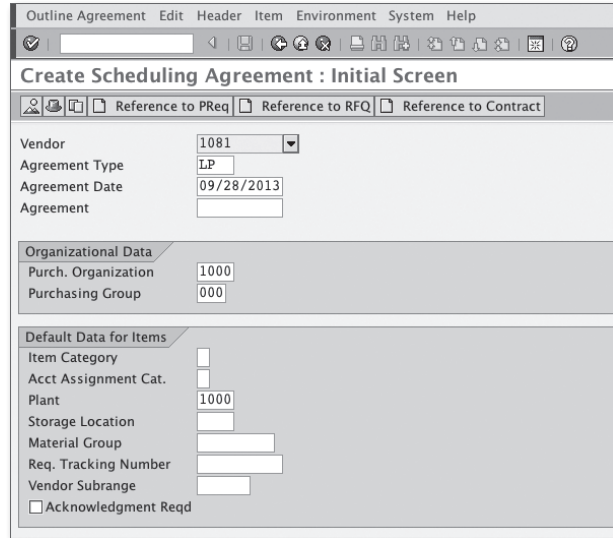

Figure 4.18 Initial Screen to Create a Scheduling Agreement
1. In the first screen of Transaction ME31L, select a VENDOR number, the AGREEMENT TYPE LP, PURCH. ORGANIZATION, and PURCHASING GROUP at a minimum (see Figure 4.18). Press to proceed to the header screen.